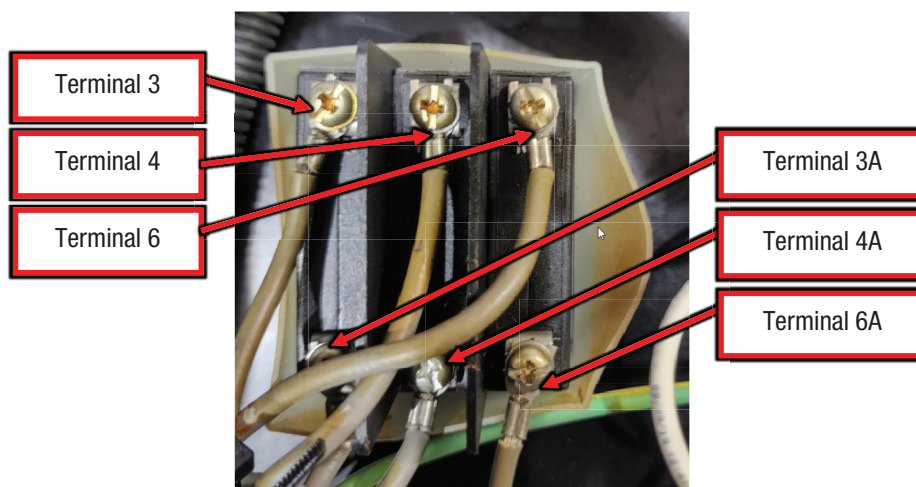

Figure F.3
A.3. Perform the static measurements in Test Table 1, refer to Figure F.3 for test point locations. NOTE: MEASUREMENTS ARE MADE ON CB1 WITH THE LEADS REMOVED.